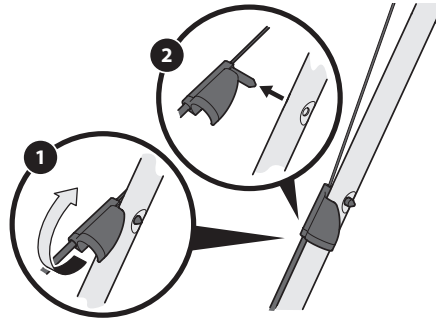

Figure 39
1. Rotate the drive cable fitting located on the left upper handle upward (Figure 39).